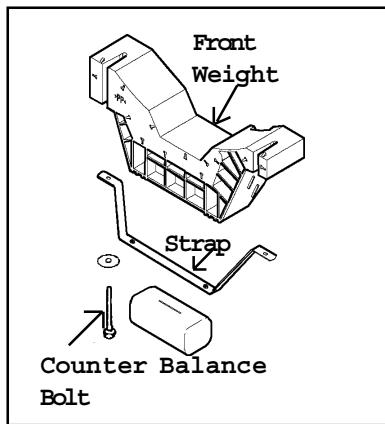

Figure 7-12
- 2 Remove the two bolts securing the weight to the outer tub assembly. Use a 9/16" socket (Figure 7-12).